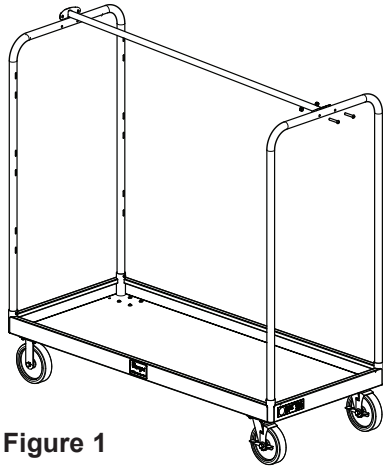

Figure 1
- Two people are required to assemble the hanger bar (3) at the top of end loops (2) of the cart. One person should support one end of the hanger bar (3) on the end loop (2) and another person should attach the other end using the long button head cap screw, (11) and lock nut (9) (Figure 1)